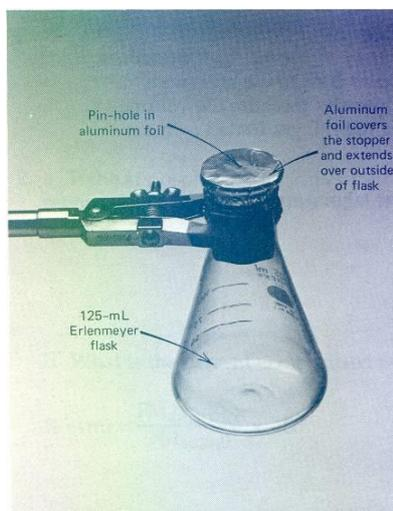

Figure 3.1. Preparation of a flask for the placement of the volatile liquid
2. Place the Sample in the Flask. Add about 6 mL of the unknown liquid to the flask and insert the stopper. You do *not* need to weigh the liquid and flask. Cover the stopper with a small piece of aluminum foil (Figure 3.1). Secure the aluminum foil with a rubber band and, with a pin, pierce the aluminum foil several times at the point where the foil covers the hole in the rubber stopper.¹